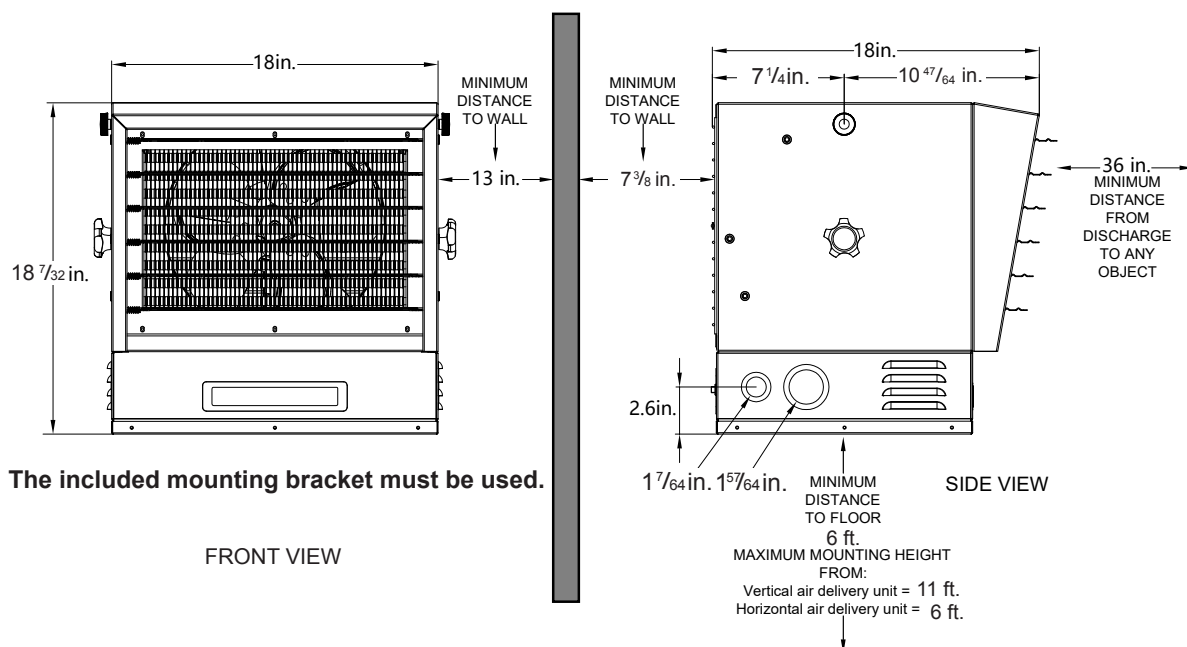

Figure 2
9. This heater must be mounted at least 6 feet off the floor. For specific clearances, see figure 2.
Install heater away from traffic areas, maintaining clearances stated in figure 2 (below). The air flow direction should not be restricted (ie. by columns or machinery). The air should flow along exposed walls rather than blowing directly on them. When more than one heater is used in an area, heaters should be installed so that the air discharge of each heater supports the air flow of the others, to provide best warm air circulation as shown in figure 3.
2. Locate the installation position for mounting bracket per the distance requirement in figure 2 on page 5.